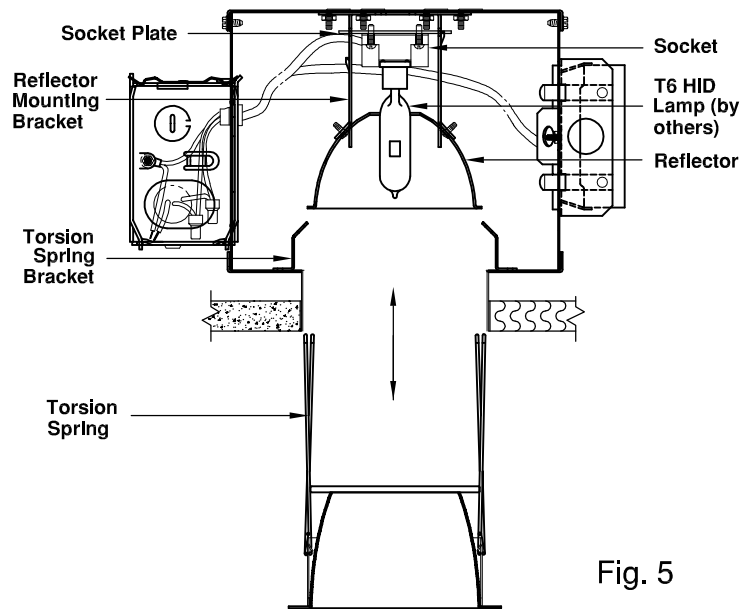

Fig. 5
Remove cone assembly and push T4.5/T6 lamp into socket. Push back cone assembly. (See Fig. 5)
**Installation of Cone:** Place torsion springs on cone assembly into torsion spring brackets on aperture push up on cone. To remove hold cone flange, pull down, depress springs & remove. See Fig 5